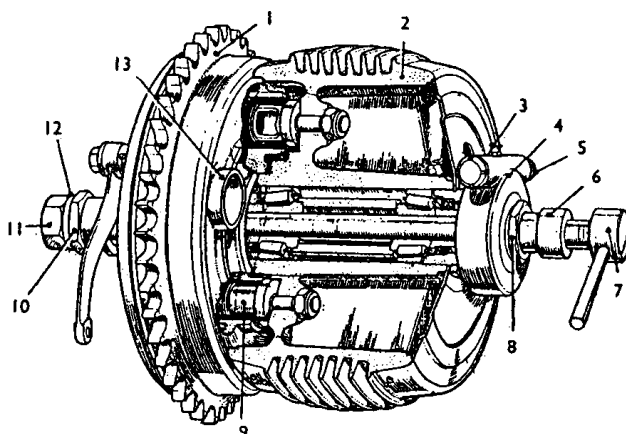

FIG. 76. DETAILS OF LIGHT-ALLOY HUB ASSEMBLY USED ON 1955-7 SPRING-FRAME MODELS WITH QUICKLY-DETACHABLE REAR WHEEL
Referring to Fig. 76, disconnect the speedometer drive by unscrewing the cable gland-nut (5) and withdrawing the end of the driving cable from the speedometer-drive gearbox (4). Next remove the nut (11) and washer (12) from the near-side of the hub spindle (7). Do not disturb the nut (10) which secures the brake cover-plate. Withdraw the hub spindle (7), by
KEY TO FIG. 76
Follow the removal procedure in reverse. Referring to Fig. 76, offer up the quickly-detachable wheel, insert the hub spindle (7) without the distance collar (6); engage the holes or tubular bosses in the brake-drum wall,